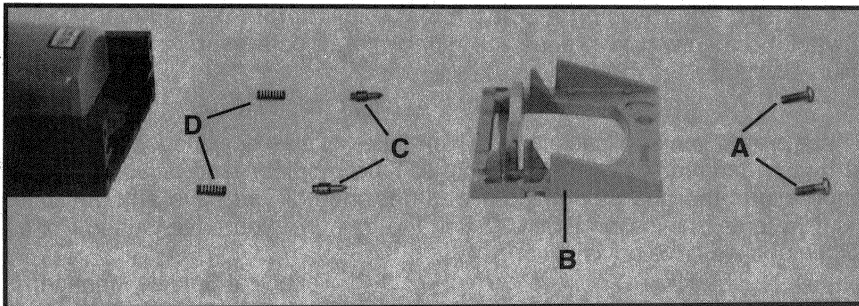

Fig. 2
NOTE: Once the two screws are removed, the blade guard will be free from the machine; releasing the two stabilizer pins (C) Fig. 2, and the two pressure springs (D) Fig. 2. Exercise care to prevent loss of these small parts. Store the old blade guard, the two screws, and your old auxiliary fence for future use.